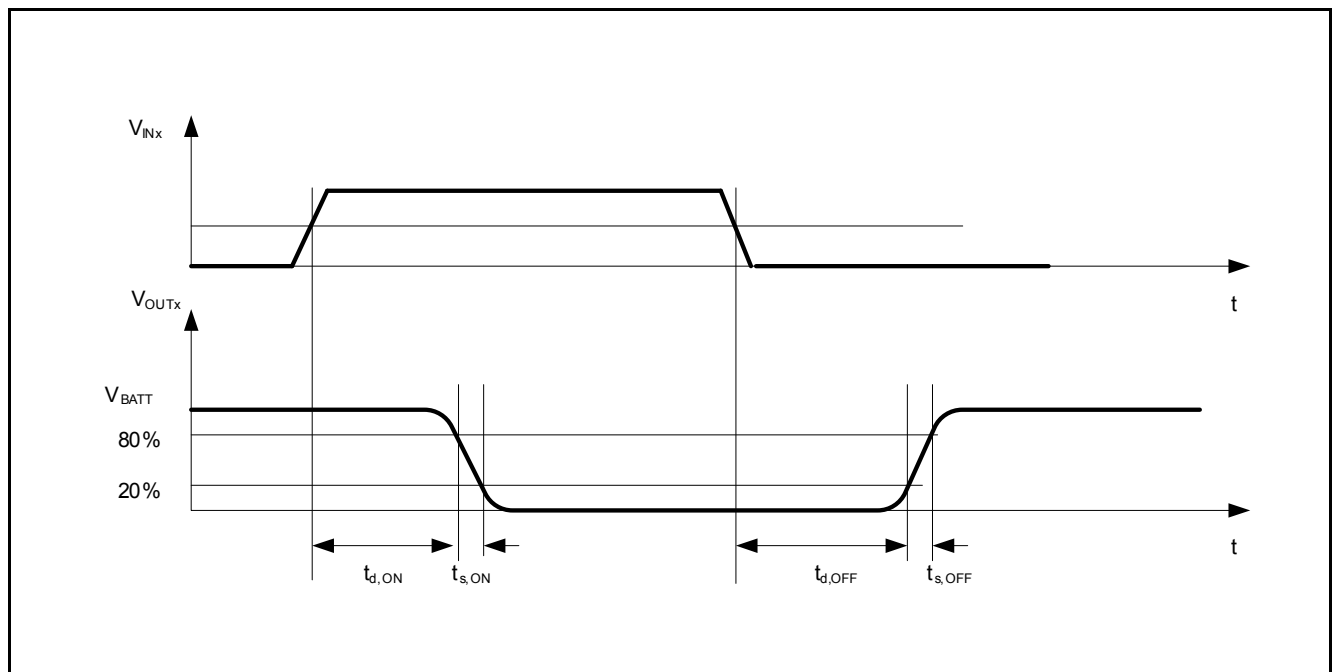
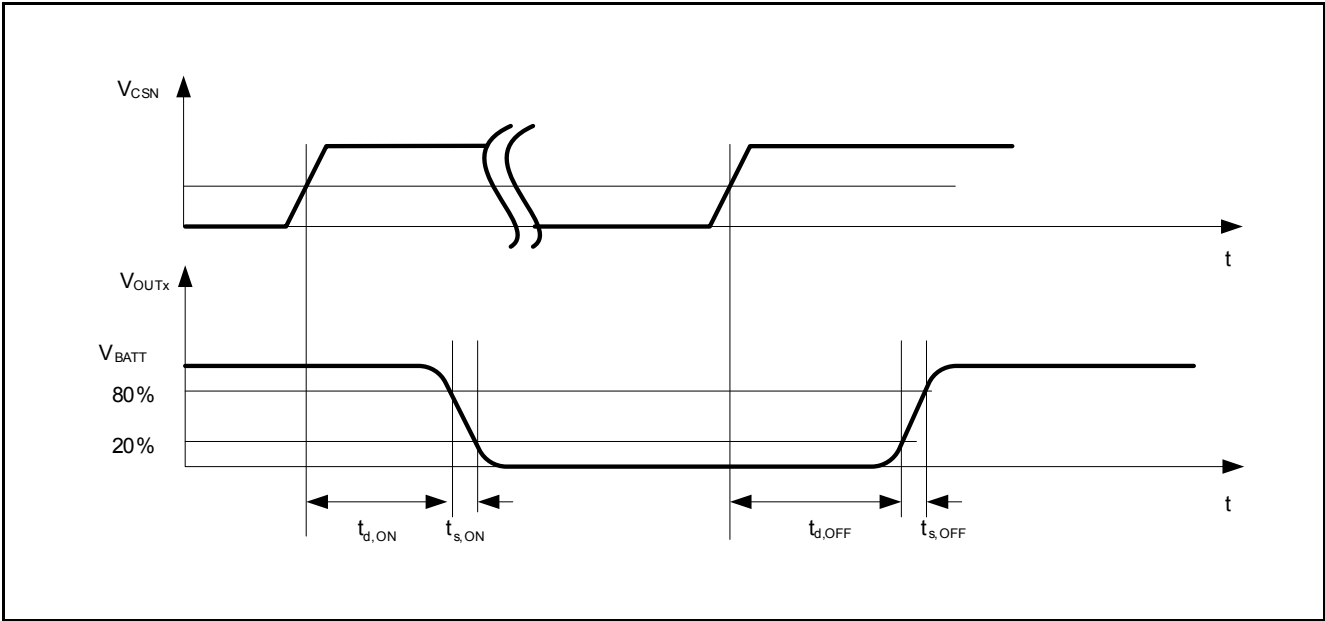

Figure 7 Timing Low Side Switches Channel 1 and 3
Figure 8 Timing Low Side Switches Channel 2, 4 and 5
- 1) definition of timing see Figure 7 or Figure 8.